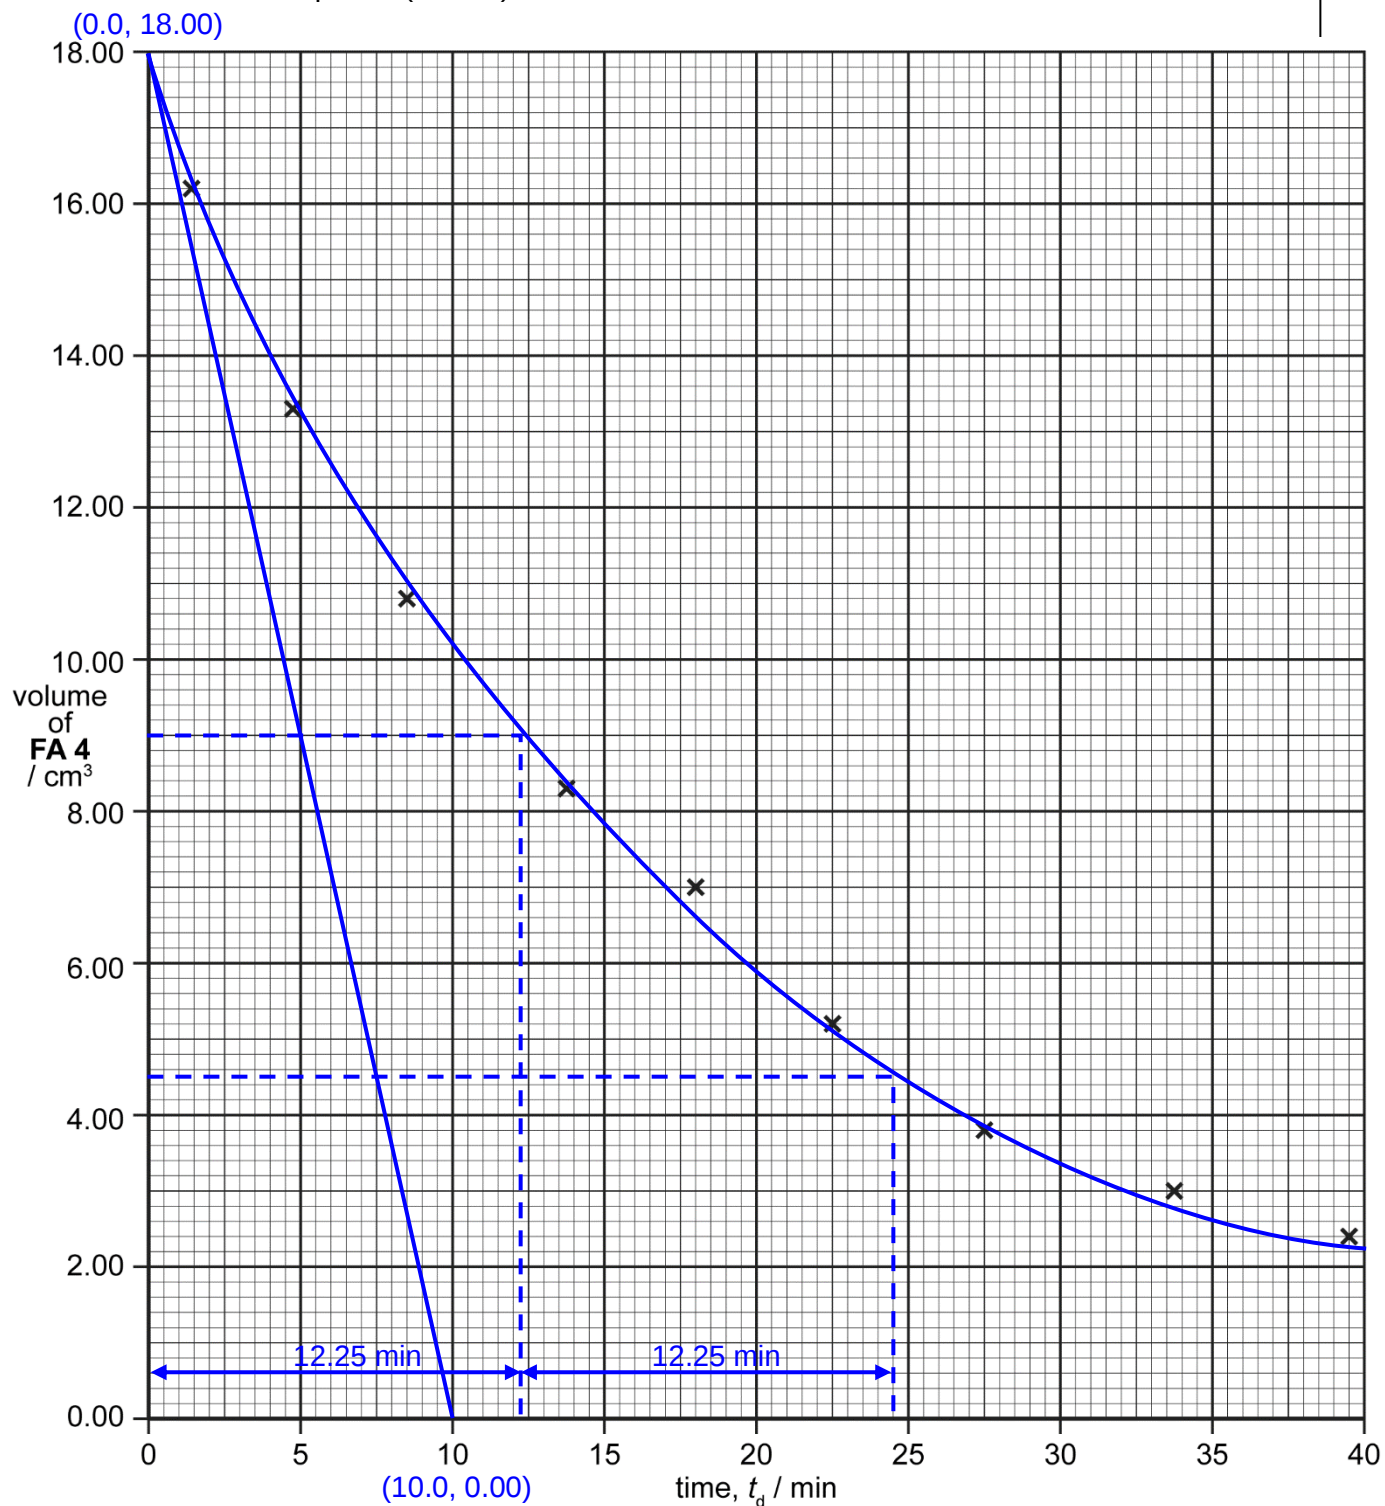

Fig. 2.2
On the grid in Fig. 2.2, the data from the student's experiment has been plotted.
The **initial rate** of change of the concentration of MnO_4^- , $[\text{MnO}_4^-]$, can be determined from the gradient of the tangent to the graph in Fig. 2.2 at time $t_d = 0.0$ min.
- (ii) Draw a tangent to your graph in Fig. 2.2 at time $t_d = 0.0$ min.
State whether you agree or disagree with this claim. Use evidence from the graph in Fig. 2.2 to support your answer.
- (f) Similar to **2(b)**, to determine the concentration of MnO_4^- in **FA 1**, the volume of **FA 4** required at $t_d = 0.0$ min can also be determined by extrapolating the graph in Fig. 2.2.
State and explain whether extrapolation of the plot in Fig 2.1 or Fig 2.2 would give a more reliable value for the volume of **FA 4** required at $t_d = 0.0$ min.
Extrapolation of **Fig. 2.2** would give a more reliable value as there are more data
points in **Fig. 2.2** (especially at the start of the graph).